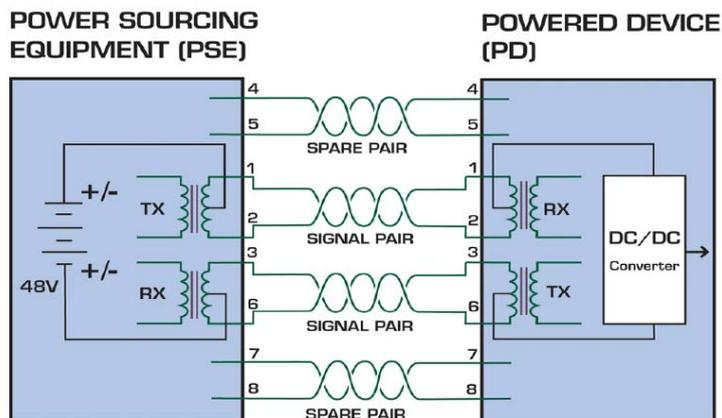

Fig. 5 - Power Through the Cable on the Data Pairs
- The data pairs are used. Since Ethernet pairs are transformer coupled at each end, it is possible to apply DC power to the center tap of the isolation transformer without upsetting the data transfer. In this mode of operation the pair on pins 3 and 6 and the pair on pins 1 and 2 can be of either polarity. This is shown in Figure 5.